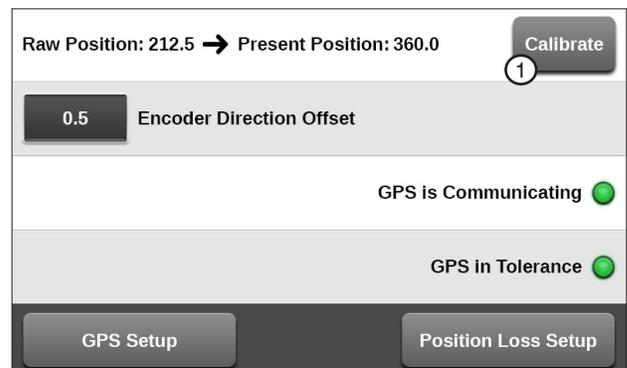

Figure 39-2 Position Screen
1. Push **Menu**, **Setup**, **Constants** and **Position** to display the Position screen. Refer to Figure 39-2.